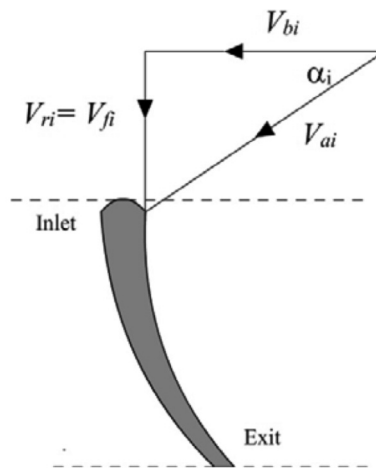

Figure Q5
- b) Figure Q5 shows the velocity diagram at inlet of a moving blade of an inward radial flow water turbine. Water leaves the guide vane at an angle α_i to the tangent to the wheel as shown. The inlet angle of the moving blade is 90° . Axial flow velocity at inlet is 20 m/s. The radii of rotating wheel at inlet and exit are 0.6 m and 0.3 m respectively. The rotational speed of the turbine is 200 rpm. The relative velocity at exit is 0.8 times that of inlet.